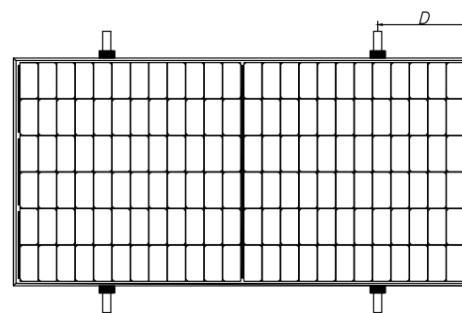
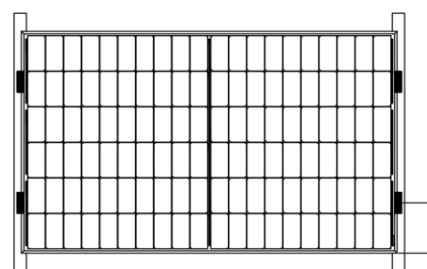

Fig. 8 Rails overlapping the long-side frame
Fig. 9 Rails overlapping the short-side frame
Photovoltaic modules can be installed across the support frame (Fig. 8) or parallel to the frame of the photovoltaic module (Fig. 9). When using clamps to install, each module must be secured with a minimum of 4 clamps.
- ⑧ For the installation method shown in Fig. 9, the module needs to be fixed with professional clamps (as shown in Fig. 13), and the overlap between the C side of the module and the rail should be  $\geq 15$ mm. Solahart limited warranty will be void if improper clamps or improper installation is used.